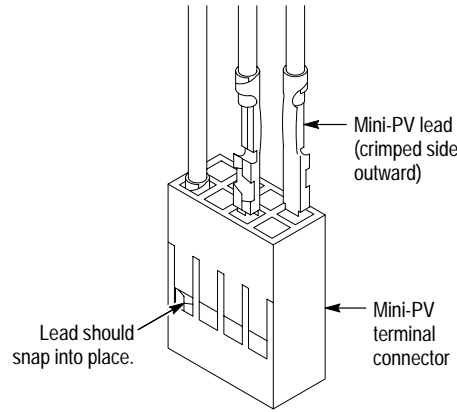

Figure 4: Mini-PV leads and terminal connector
3. For mini-PV leadset connectors, insert the leads into the mini-PV terminal connector. See Figure 4. A properly inserted lead snaps into place and cannot be withdrawn. An improperly installed lead slides out easily.